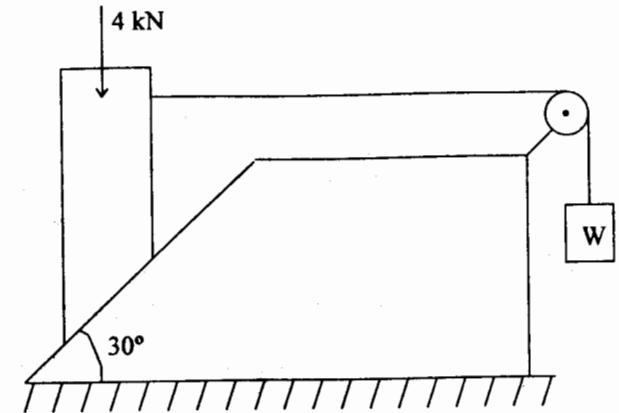

Fig. 6
- (b) A 4 kN block is placed on an inclined plane as shown in Fig. 6. Find maximum value of W equilibrium if tipping does not occur. Take  $\mu = 0.25$ .